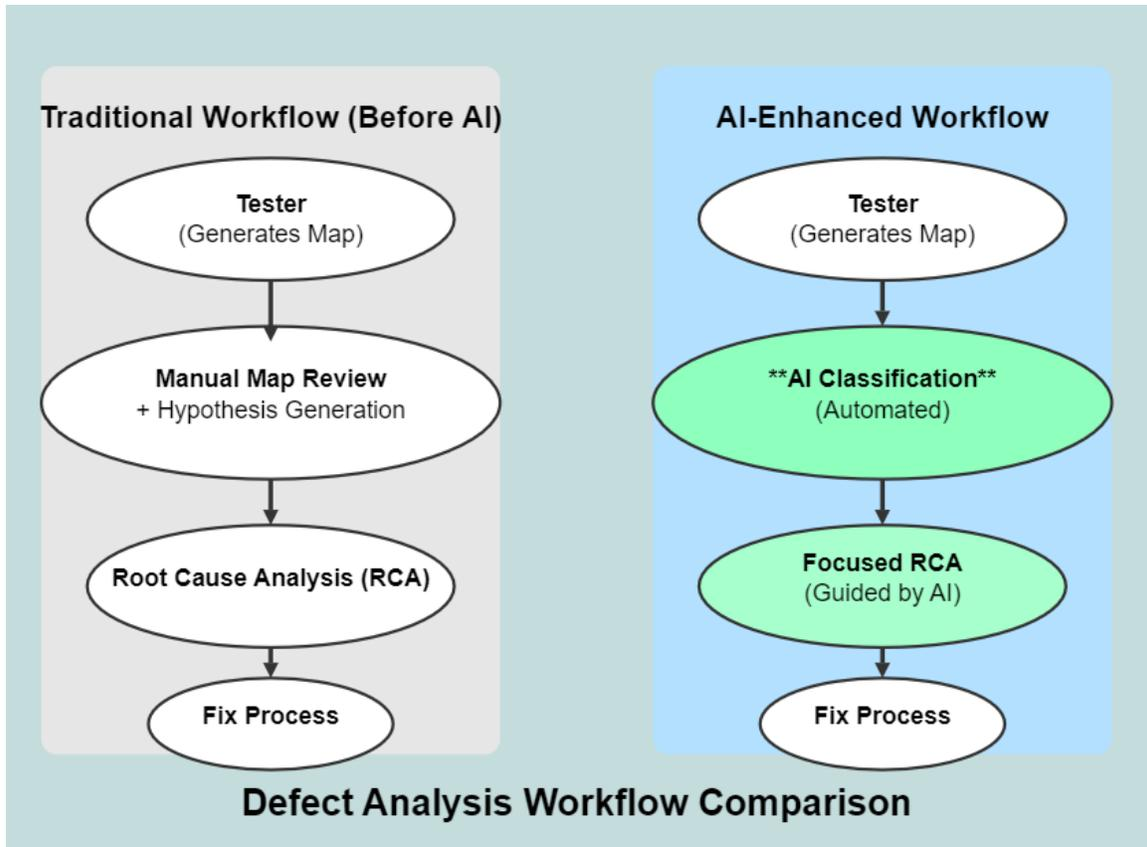
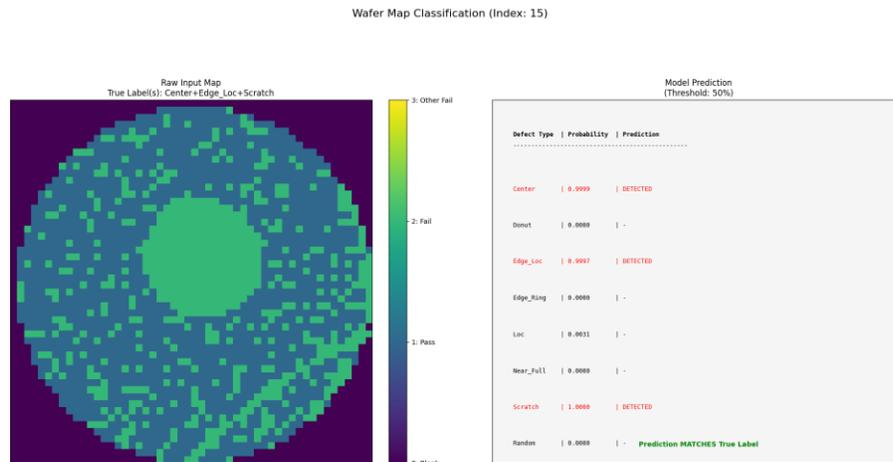

Figure 9: Comparison of Defect Analysis Workflow: Traditional vs. AI-Enhanced.
Figure 10: Visual summary highlighting the project's successful outcome.
- Figure 9: Comparison of Defect Analysis Workflow: Traditional vs. AI-Enhanced. (Source: generate_workflow_diagram.py)
- Figure 10: Visual summary highlighting the project's successful outcome. (Source: User Provided)
Manufacturing Potential: This validated model can significantly accelerate root cause analysis (Figure 9), leading to faster process corrections, improved yield, reduced waste, and optimized engineering resource allocation. The overall success is visually represented in Figure 10.
This validated AI model offers significant practical benefits for semiconductor manufacturing by streamlining the defect analysis process, as illustrated in Figure 9. Key advantages include: Automated Classification, Accelerated RCA, Improved Yield & Reduced Waste, Enhanced Process Monitoring, Objective Data Logging, and Optimized Engineering Resources.
The outstanding performance and clear potential impact (summarized visually in Figure 10) suggest the following next steps: